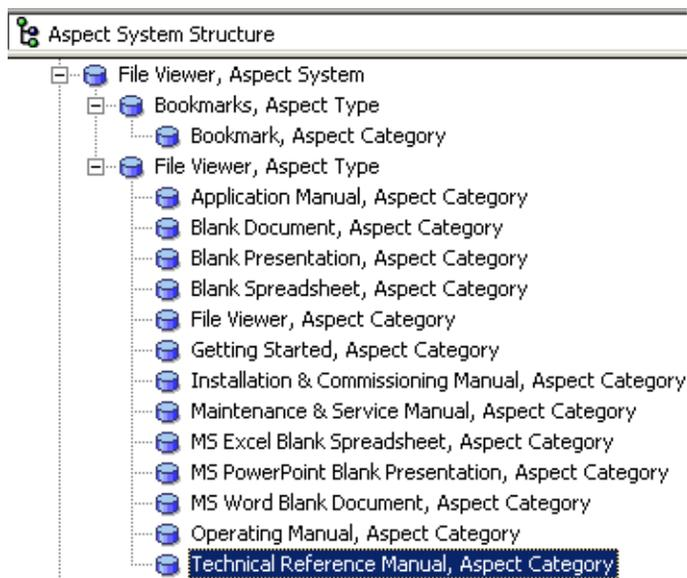

Figure 290. Technical Reference Manual, Aspect Category Object
4. Select the Technical Reference Manual object, see Figure 290.